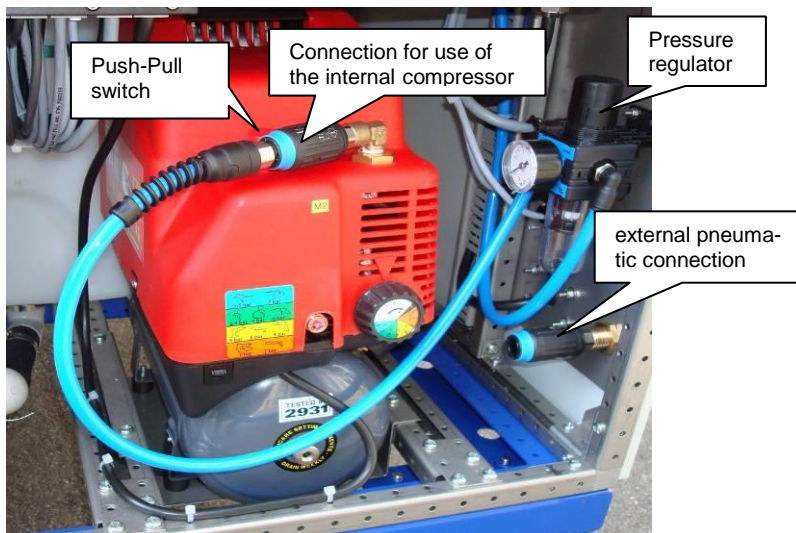

Figure 13: Pneumatic source selection
- Check and if necessary adjust the pressure regulator for the pneumatics to 6 bar. It is located next to the compressor behind the single door below the control panel. (See Figure 13)